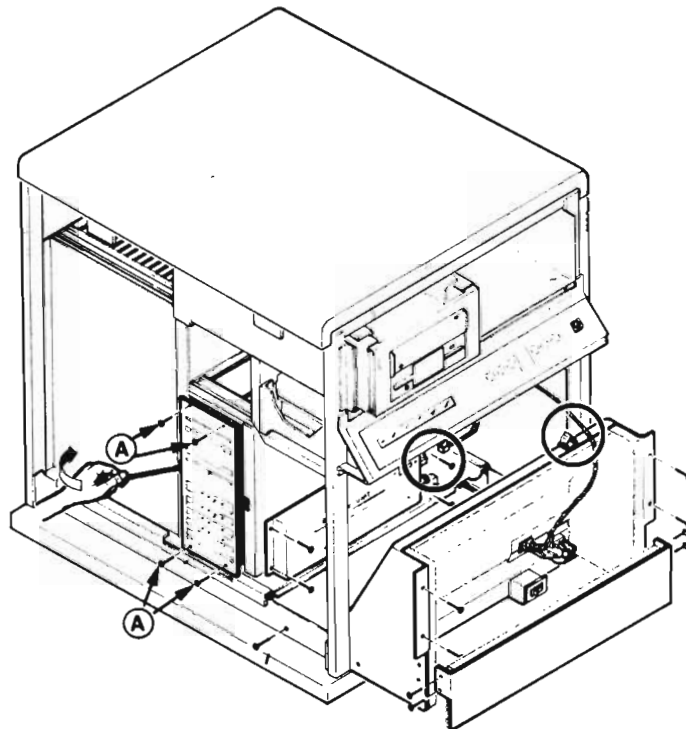

Figure 31. Replacing the Power Supply in ND-100 COMPACT
2. Unscrew the four screws (A) on the front of the power supply, and use a screwdriver to lever it out of the power-supply cabinet, (see fig. 31).